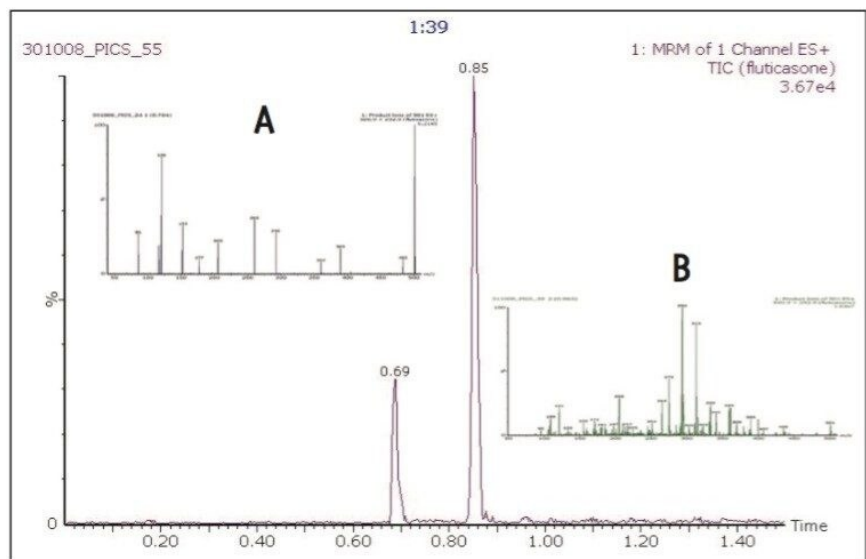

Figure 3. Analysis of rat plasma spiked with 100 ng/mL fluticasone propionate.
During the development of an LC/MS/MS method for fluticasone propionate, two peaks with the same MRM transitions were detected, Figure 3.
The product ion scan spectra simultaneously generated by the PIC function during analysis is displayed in Figure 3. Spectra (A) is that obtained from the peak eluting with a retention time of 0.69 minutes. Spectra (B) is that obtained from the peak eluting with a retention time of 0.85 minutes.